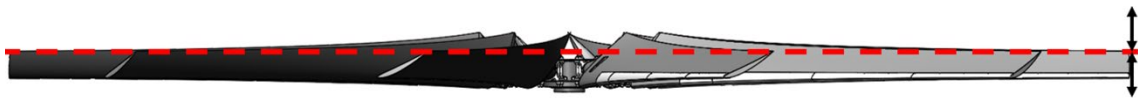

Figure 18 - Vertical variation
The blade fastening shall also be done observing a maximum variation in the vertical position (blade tip related to the rotational plane) of $\pm 2 \frac{1}{4}''$ ($\pm 57,2\text{mm}$) as seen in **Figure 18**. The rotational plane is defined by a plane that contains all the trailing edge vertices. One way to verify this tolerance is by rotating the fan and marking the height of each trailing edge vertex on the fan stack at the same position and then measuring the distance between the two extremes. This distance shall not exceed $4 \frac{1}{2}''$.
- Check if all blades have same tip height within the tolerance of **Figure 18** - Vertical variation;